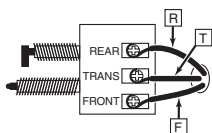
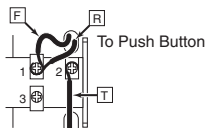

Figure 4 - "Old Chime"
Figure 5
TURN OFF HOUSE POWER. Label wires at the "old" chime as shown in Figure 4. Remove "old" chime. At the transformer remove the two or three low voltage wires from the output terminals, twist them together and secure them with a wire nut. Turn the house power back on. Mount the new battery-operated chime in place of the "old" chime and connect wires as follows: F to chime terminal #1; R to chime terminal #1 (NOTE: Rear door and front door will both sound the two-note (Ding-Dong) tune when either button is activated.); T to chime terminal #2. NOTE: No connection to chime terminal #3 (see Figure 5). Fit (4) "C" batteries noting + or - marked on the base plate. Alkaline batteries offer longer life. Batteries are not included.